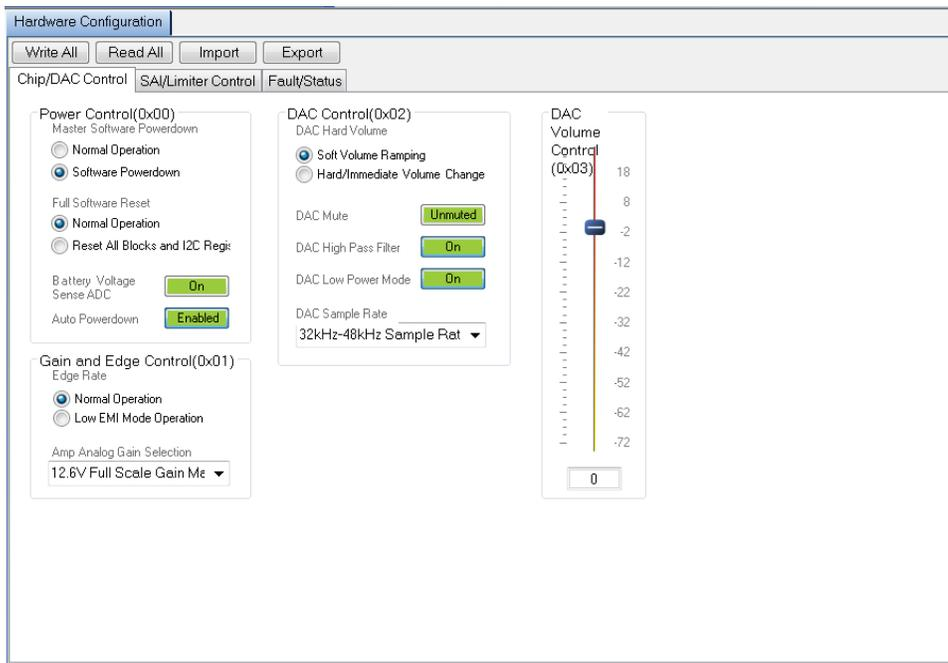

Figure 6. Chip/DAC Control Tab
15. Under **Master Software Powerdown**, select **Normal Operation** (see Figure 6).
18. Click the **Chip/DAC Control** tab in the GUI (see Figure 6). This tab provides the power-up, mute, volume control, and gain settings.
21. Click the **Chip/DAC Control** tab in the GUI (see Figure 6). Under **Master Software Powerdown**, select **Normal Operation** to power up the chip.